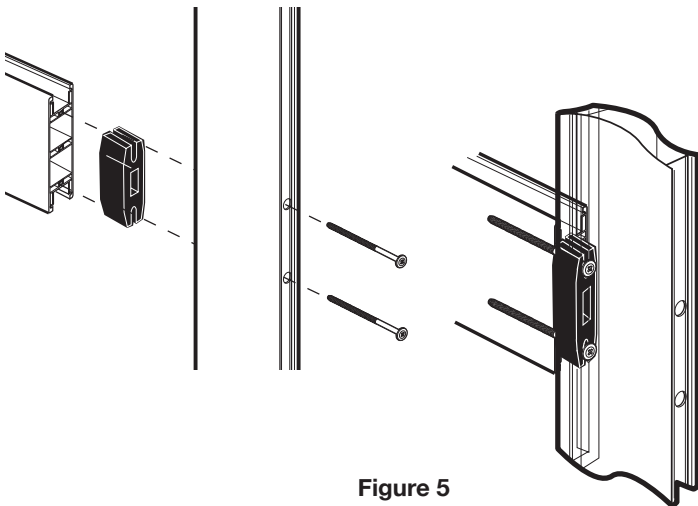

Figure 5
Place 2 of the 4" screws (Z) into the pre-drilled holes in the stile, making sure they are fully inserted. Snap a center rail stopper (F) into the channel between the 2 screw shafts. Once in place, snap each screw shaft into the outer channels of the stopper. Place the Center rail (E) against the screws, lining up the holes in the extrusion. Once in place, tighten the screws until stile and rail are flush and secure. Do not overtighten. See Figure 5.